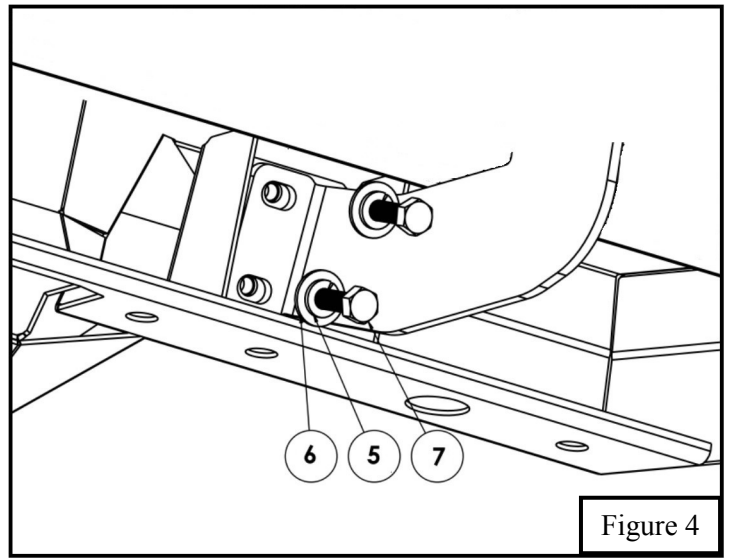

Figure 4
5. For Step Board installation to the previously installed mounting brackets use the supplied Short M8 bolts and M8 hardware. **See Figure 4.**